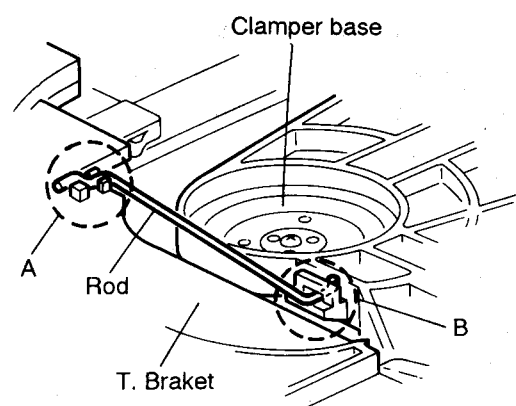

Fig. 5-25
1. Place the cassette mechanism back side frontward and disengage the stopper arm ① of the Eject slide lever by pressing it inwards through the opening of the chassis with a small screwdriver as shown in Fig. 5-25.
2. Disengage the Eject slide lever in the direction of arrow ③.
(See Figs. 5-25 — 5-31)
4. From the T. bracket section (A) and clamber base section (B), remove both of the edges fixing the rod (See Figs. 5-25 and 5-26).
5. Remove the three screws (1) retaining the T. bracket (See Fig. 5-25).